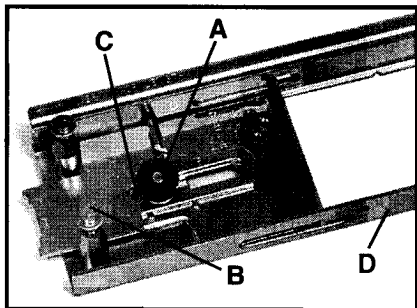
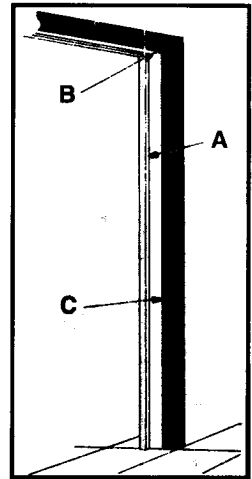

Fig. 2
Fig. 9
2. **See Fig. 2.** Under left thumb nut and washer (A) install 5" (short) end gage (B), aligning scribed line next to the number 5 with center of projection (C).
1. Place assembled Hinge Butt Templet, as removed from door, against door jamb so the end gage (B) Fig. 2, that was at the top of the door, is against top of door jamb (B) Fig. 9.
2. Starting with the top templet section snug side of templet (D) Fig. 2, against door stop (A) Fig. 9, and drive in nails. Repeat for center section and lower section.
2. Place assembled Hinge Butt Templet, as removed from door, against jamb so the end gage (B) Fig. 2, that was at the top of the door, is against top of door jamb (B) Fig. 9.
4. Loosen thumb nut (A) Fig. 2, and adjust end gage (B) Fig. 2, until it butts against the top of the door jamb (B) Fig. 9. Tighten thumb nut securely.